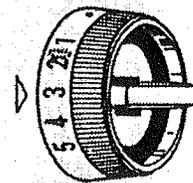

Fig. 3
3. Raise presser foot and turn material and set stitch width control to three. Lower presser foot and take one stitch to the left. Point B to C. See Fig. 3